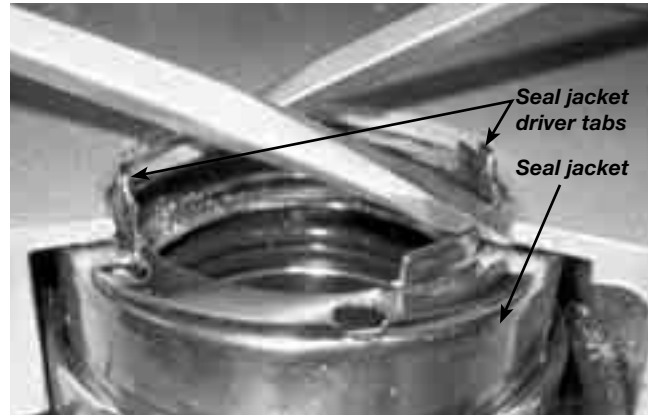

Figure 7
- 9.2 Remove the mechanical seal. Using two screwdrivers, gently push the backside of the seal jacket to remove the seal from the head (see Figure 7). Be careful when using the screwdrivers on the seal faces. The seal faces can be damaged. Detach and dispose of the mechanical seal O-rings.
Apply a small amount of light oil in the head recess. Press the mechanical seal assembly into the recess of the head so the seal jacket drive tabs face the rotor. The pin in the stationary seat must be between the lugs in the back of the head recess (see Figure 7).